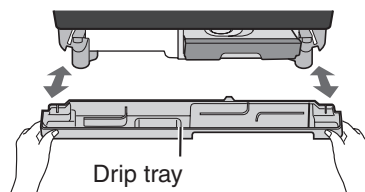

Figure 4
The drip tray is packed with the oven. Place the drip tray under the oven door as shown in Figure 4. This drip tray collects the condensation from the oven door.
**To replace the drip tray:** Insert the drip tray horizontally as shown in Figure 4.